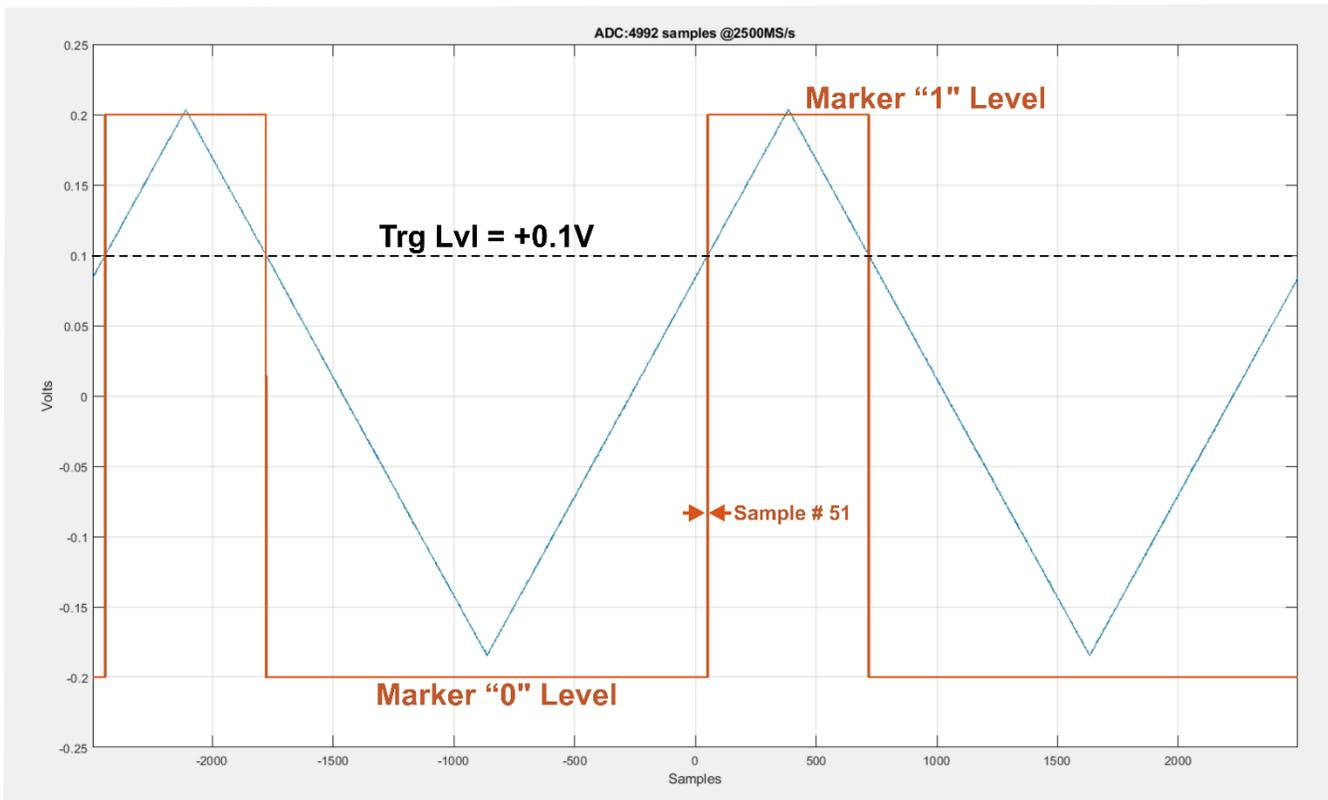

Figure 10.11 Marker Mode
- MR1/MR2: Rise of the marker bit in a given digitizer channel (see Figure 10.11 Marker Mode).
- MF1/MF2: Fall of the marker bit in a given digitizer channel (see Figure 10.11 Marker Mode).